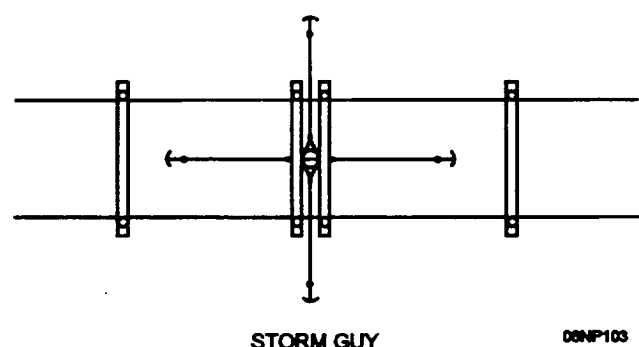

Figure 4-6.—Storm guy.
**STORM GUY.**—Guys are installed at regular intervals in transmission lines that extend long distances in one direction to protect the line from excessive damage as a result of broken conductors. Guys installed to protect the facilities and limit the damage if a conductor breaks are called "line guys" or "storm guys" (fig. 4-6).